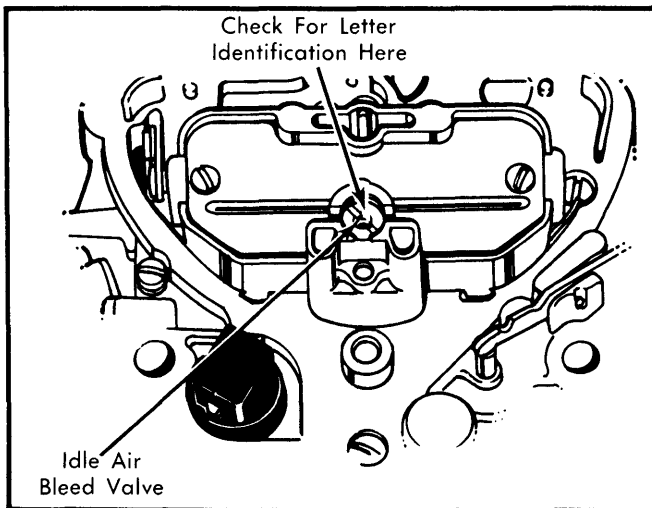

Fig. 16 Location of Idle Air Bleed Valve and Identification Letter
8) Remove and discard cover. Check for letter identification on top of idle air bleed valve. See Fig. 16. After identifying valve, use correct procedure as follows to remove valve: